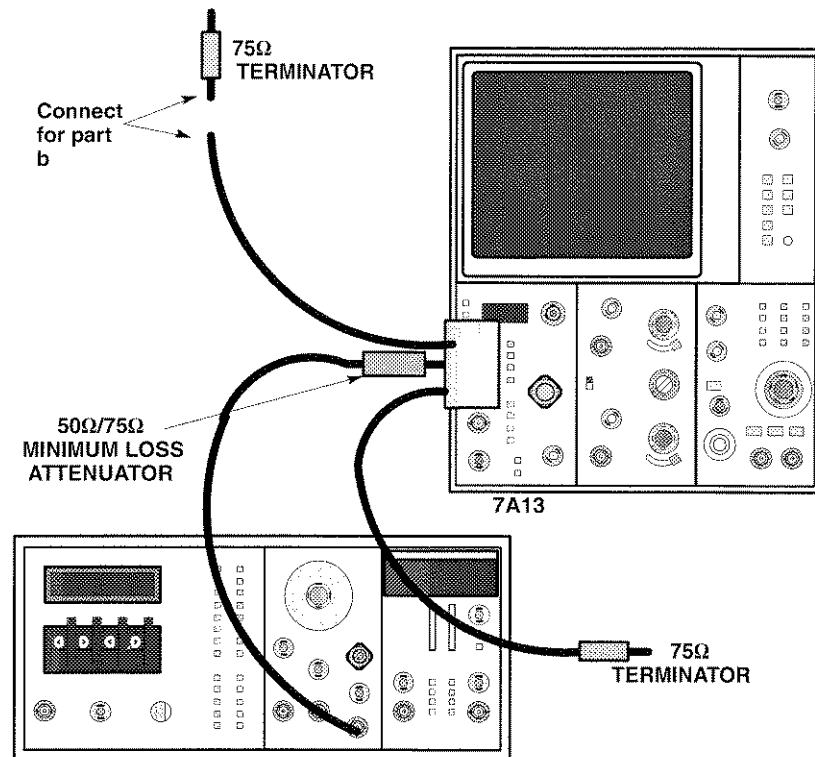
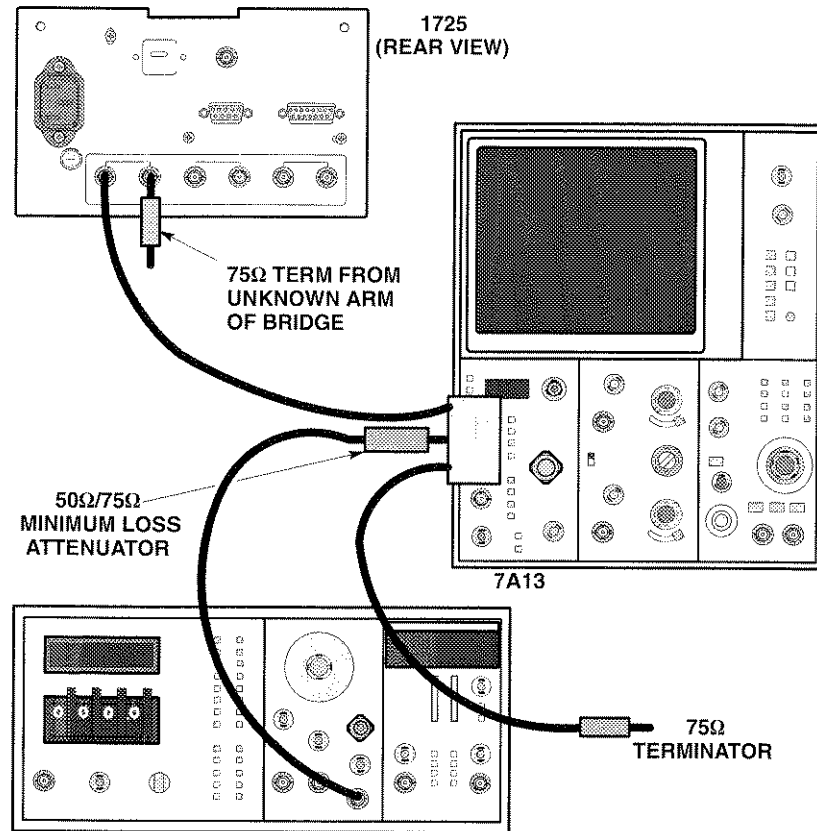

Figure 5-11: Initial equipment setup for return loss.
Figure 5-12: Measuring return loss of 1725 CH-A input.
terminator removed from the Unknown arm of the Bridge. See Figure 5-11.
- b. Change the generator frequency to 6 MHz. Reconnect the terminator to the Unknown arm, set the 7A13 for 1 mV per division, and balance the Bridge. See Figure 5-11. Connect the Unknown arm to the INPUT (CH-A, CH-B, or EXT REF) of the 1725 instrument and connect the terminator to the opposite side of the loopthrough. See Figure 5-12.